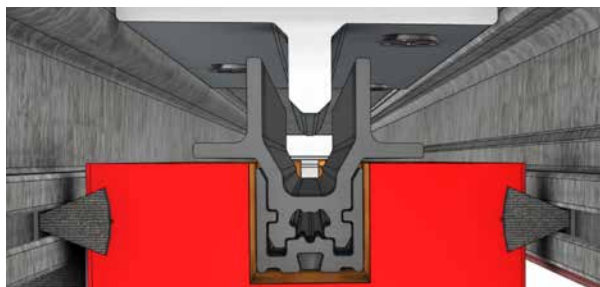

Fig A8
- Slide the structural rail into the structural rail base, located on the top of each panel near the edge of the Stile (Fig. A8).